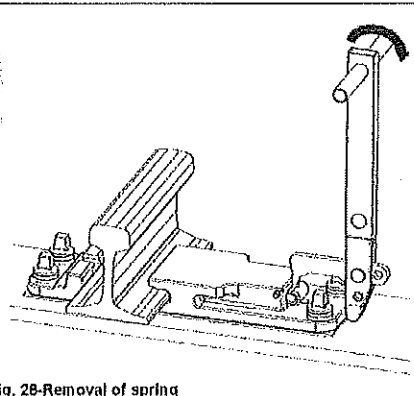

Fig. 28-Removal of spring
1. Engage hook of extraction tool into the recess of the IFAST spring. Prop the lower end of the tool on the plate and drive the upper end until the IFAST spring has reached at least the parking position, Fig. 28.